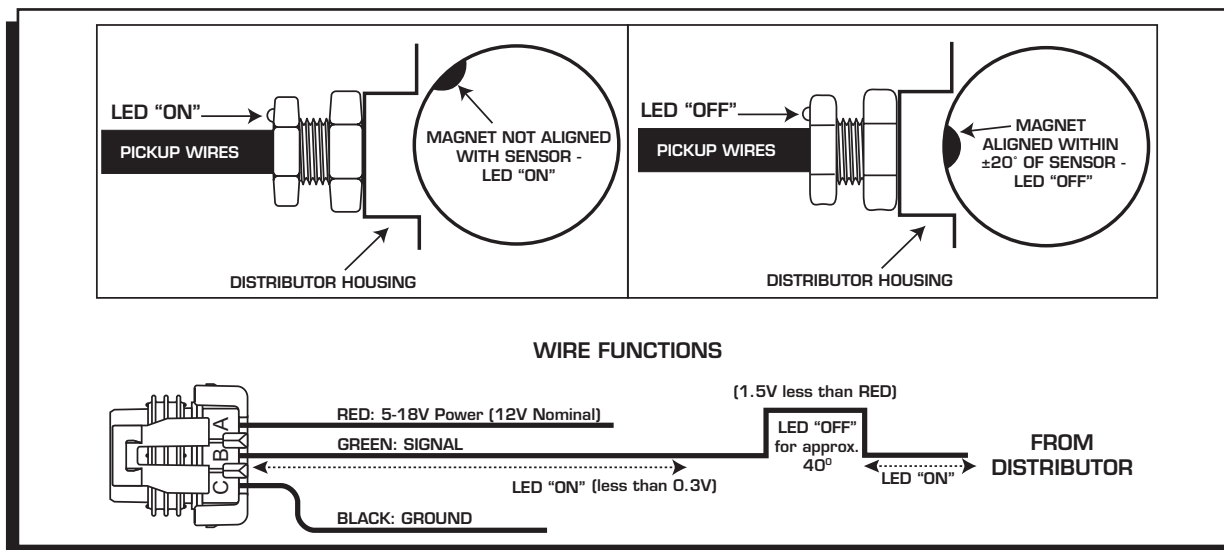

Figure 1 Installing the Hall-Effect Pickup.
4. Position each wire into the connector making sure they are in the correct position as shown in Table 2. *Please note that your mating wire colors may be different from the pickup's shown in Figure 1.* Fully insert each terminal and listen for an audible click. Make sure the terminal has locked in the connector shell by gently pulling on the wire and confirming that it does not back out.